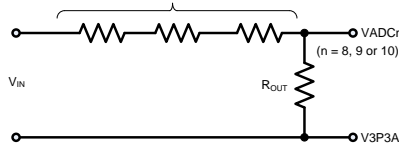
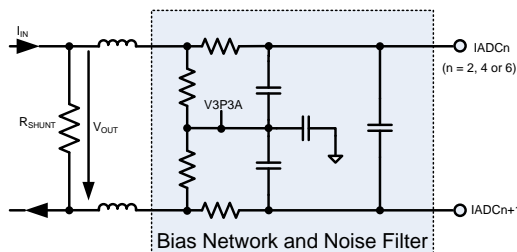
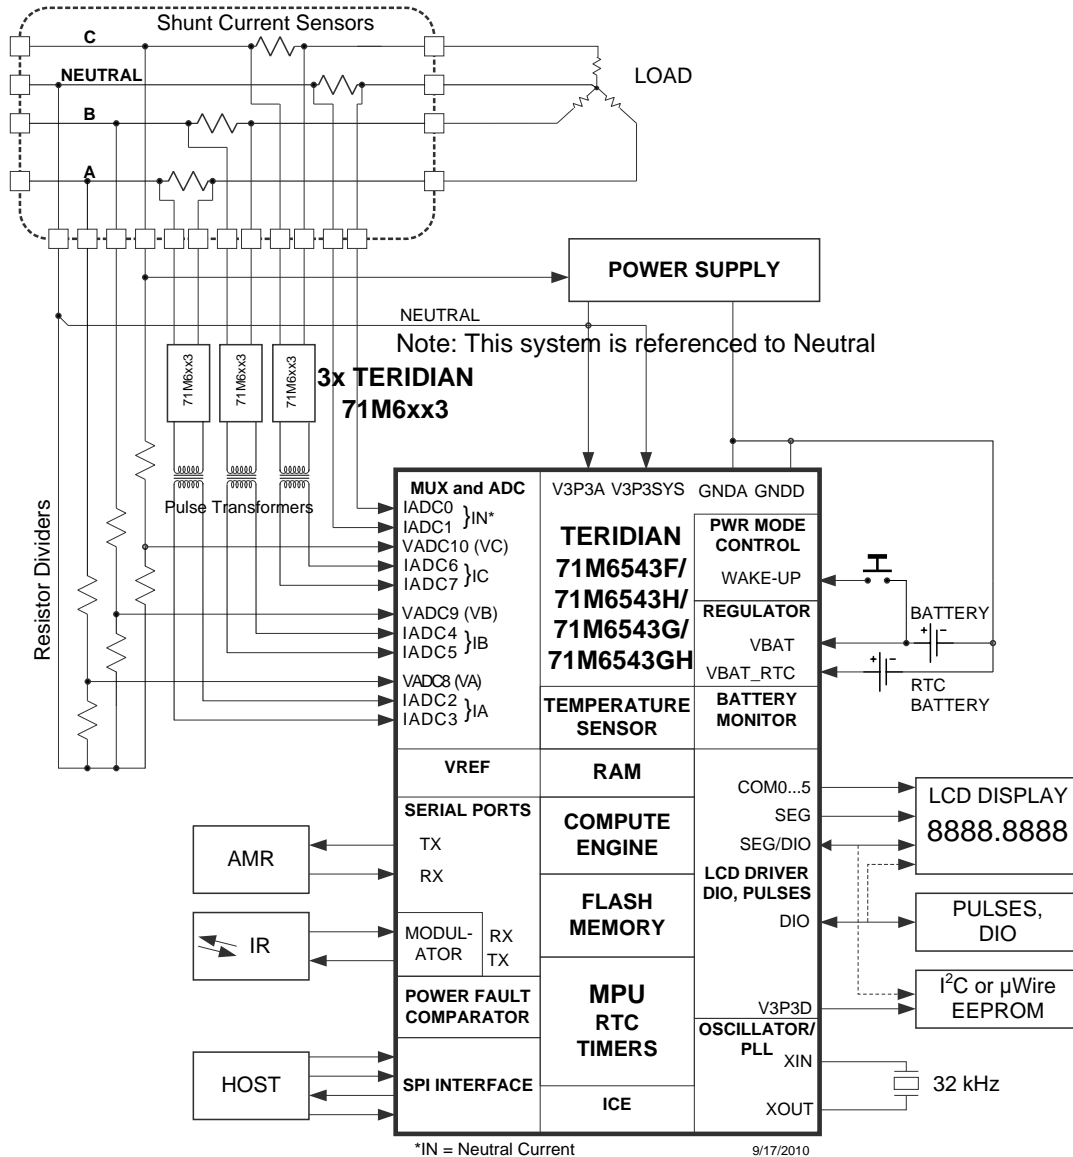
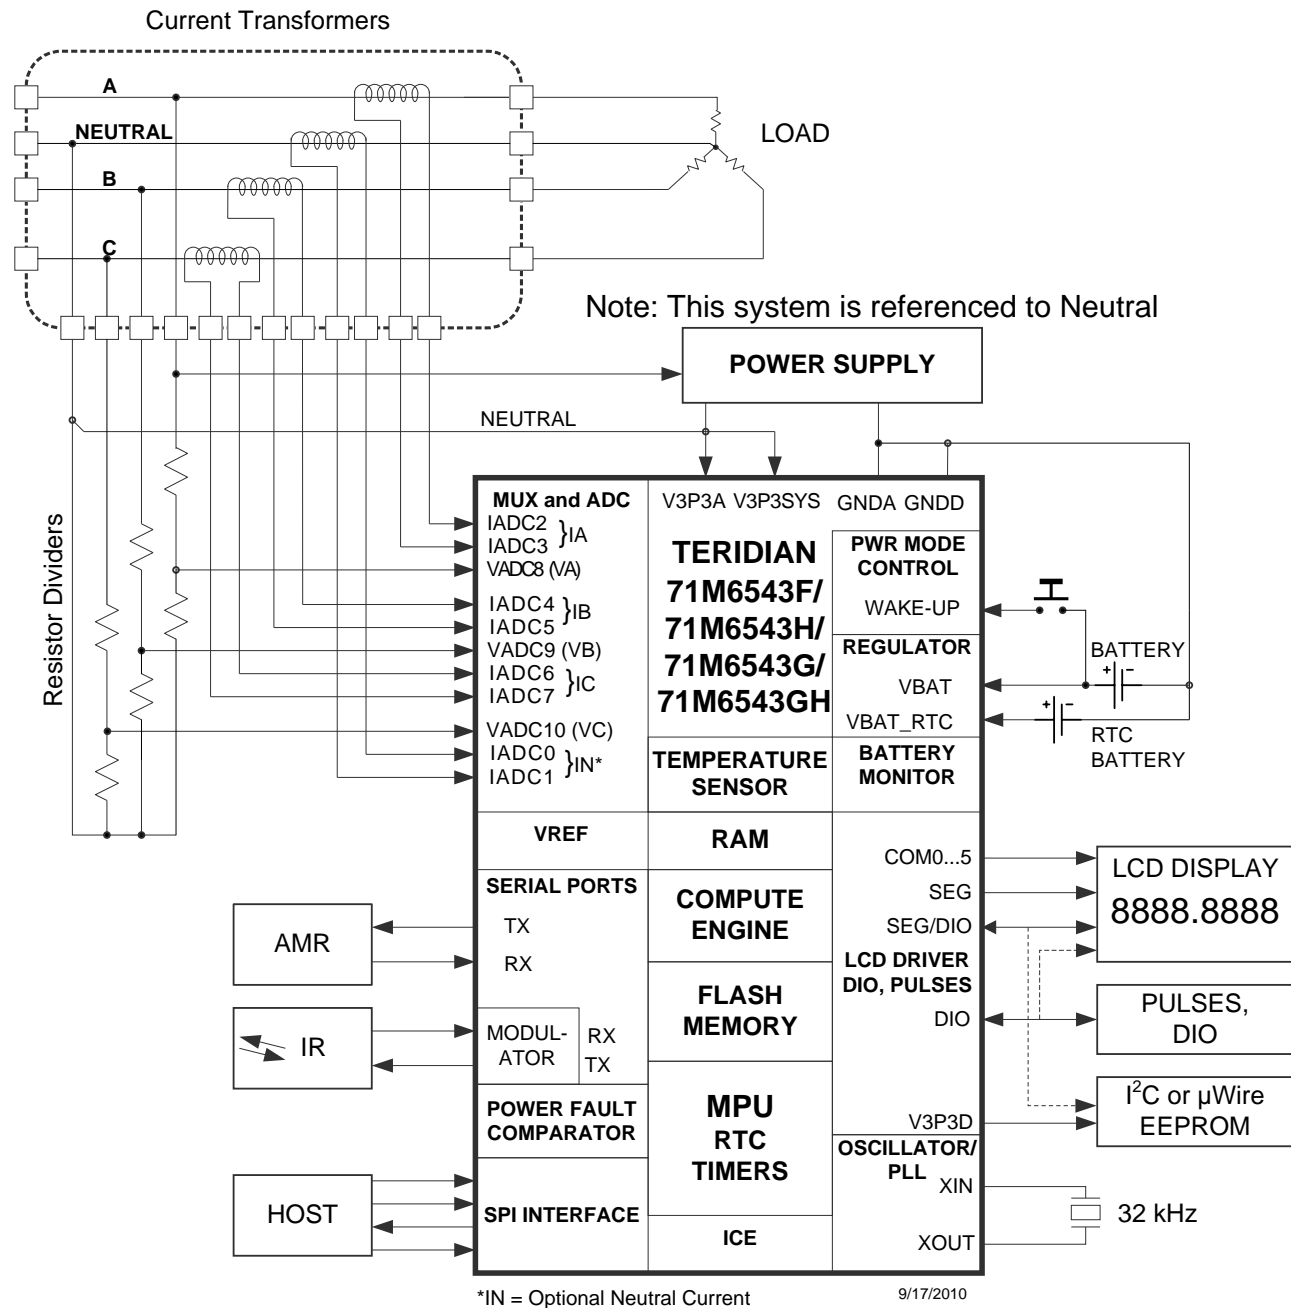

Figure 27: Resistive Voltage Divider (Voltage Sensing)
Figure 30: Differential Resistive Shunt Connections (Current Sensing)
Figure 31: System Using Three-Remotes and One-Local (Neutral) Sensor
Figure 32. System Using Current Transformers
Figure 27 through Figure 30 show voltage-sensing resistive dividers, current-sensing current transformers (CTs) and current-sensing resistive shunts and how they are connected to the voltage and current inputs of the 71M6543. All input signals to the 71M6543 sensor inputs are voltage signals providing a scaled representation of either a sensed voltage or current.
Figure 31 shows a typical connection for current shunt sensors; using the 71M6xx3 (polyphase) isolated sensors. Note that one shunt current sensor is connected without isolation, which is the neutral current sensor in this example (connected to pins IADC0-IADC1). Each 71M6xx3 device is electrically isolated by a low-cost pulse transformer. The 71M6543 current sensor inputs must be configured for remote sensor communications, as described in 2.2.8 71M6xx3 Isolated Sensor Interface (page 22). Flexible remapping using the I/O RAM registers  $MUXn\_SEL[3:0]$  allows the sequence of analog input pins to be different from the standard configuration (a corresponding CE code must be used). See Figure 2 for the AFE configuration corresponding to Figure 31.
Figure 32 shows a polyphase system using four current transformers to support optional Neutral current sensing for anti-tamper purposes. The Neutral current sensing CT can be omitted if Neutral current sensing is not required. The system is referenced to Neutral (i.e., the Neutral rail is tied to V3P3A and V3P3SYS).
This section discusses metrology temperature compensation for the meter designs where current shunt sensors are used in conjunction with Teridian's 71M6xx3 remote isolated sensors, as shown in Figure 31.
Referring to Figure 31, the VADC8 (VA), VADC9 (VB) and VADC10 (VC) voltage sensors are always directly connected to the 71M6543. Thus, the precision of the voltage sensors is primarily affected by VREF in the 71M6543. The temperature coefficient of the resistors used to implement the voltage dividers for the voltage sensors (see Figure 27) determine the behavior of the voltage division ratio with respect to temperature. It is recommended to use resistors with low temperature coefficients, while forming the entire voltage divider using resistors belonging to the same technology family, in order to minimize the temperature dependency of the voltage division ratio. The resistors must also have suitable voltage ratings.
Table 67 shows the five  $GAIN\_ADJ_x$  equation output storage locations and the voltage or current sensor channels for which they compensate for the 1 Local / 3 Remote configuration shown in Figure 31.
**Table 67: GAIN\_ADJn Compensation Channels (Figure 2, Figure 31, Table 1)**
This section discusses metrology temperature compensation for meter designs where Current Transformer (CT) sensors are used, as shown in Figure 32.
Referring to Figure 32, the VADC8 (VA), VADC9 (VB) and VADC10 (VC) voltage sensors are directly connected to the 71M6543. Thus, the precision of the voltage sensors is primarily affected by VREF in the 71M6543. The temperature coefficient of the resistors used to implement the voltage dividers for the voltage sensors (see Figure 27) determine the behavior of the voltage division ratio with respect to temperature. It is recommended to use resistors with low temperature coefficients, while forming the entire voltage divider using resistors belonging to the same technology family, in order to minimize the temperature dependency of the voltage division ratio. The resistors must also have suitable voltage ratings.
**Table 68: GAIN\_ADJx Compensation Channels (Figure 3, Figure 32, Table 2)**